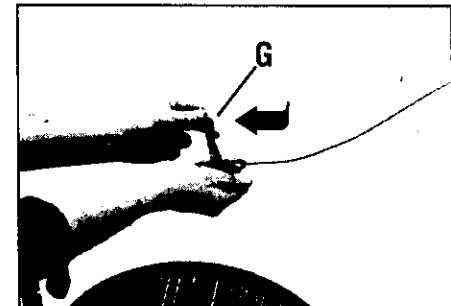

Figure 2-4: Put Wheel Gear Lever in DISENGAGE position.
6. To remove the tiller from its shipping platform, free the wheels by moving the Wheel Gear Lever (G, Figure 2-4) to the DISENGAGE position (this allows the wheels to rotate). Carefully unwrap the wheel gear cable from around the unit before moving the lever. Use this DISENGAGE mode only when the engine is not running. Before starting the engine, the Wheel Gear Lever must be placed in the ENGAGE position (see the "Operation" section for details).